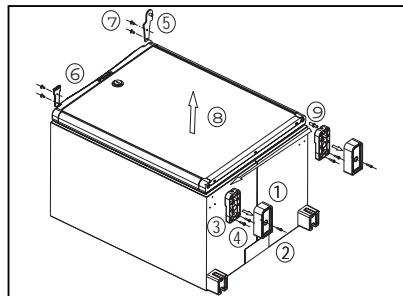

Figure 13.
8. Reversing the door hang (Fig. 13.)
- Take down the two foot-extension (1) pieces by removing the two screws (2)
- Remove the four screws (4) and take out the two fixing feet (3)
- Remove the four screws (7) the upper hinge (5) and the cover cap (6)
- Remove the door (8), together with the upper hinge (5), from the housing
- Insert the upper hinge (attached the miniBar) and the covering plate in the slot on the opposite side and secure with four screws (7).
- Mount the fixing feet (3) with hinge bolts (9) placed into the opposite side of the feet
- Mount the two foot-extension pieces (1)
9. Replacing the decorative door panel (Fig. 13., 14.)